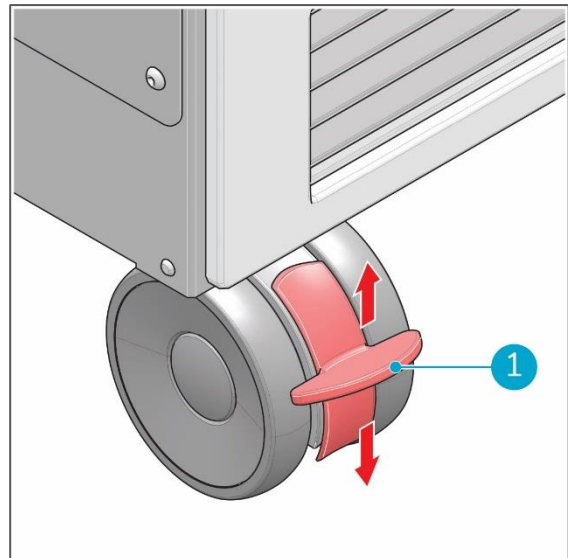

Figure 5
Always place the i-air Pro in an upright position. Once correctly placed on location, always lock the brakes on the front caster wheels (Figure 5, pos. 1) when the i-air Pro is in operation. Push the red brake lever down to lock the brake, pull it up to unlock the brake.